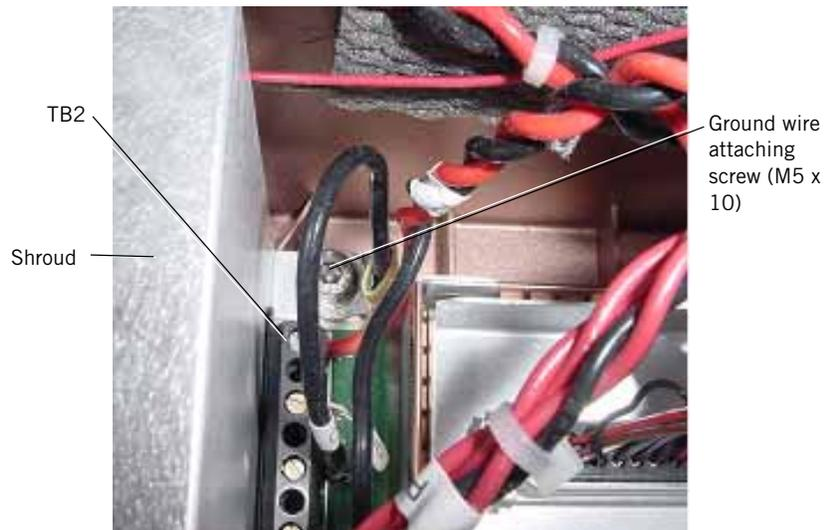

Figure 10-22: Shroud Ground Connection
4. Reinstall the power supply shroud (see Chapter 10.8 on p. 10-22). Make sure the red and black wires from TB3 rest inside the shroud slots, and that the shroud does not pinch any of these cables. All cable assemblies and wires must be routed between the shroud and the top enclosure wall. The black ground wire reattaches to the shroud with the longer screw, near connector TB2 (Figure 10-22).